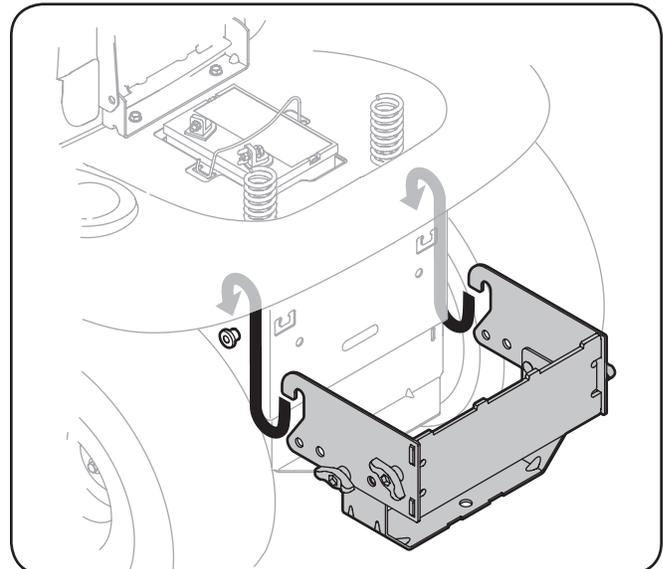

Figure 3-5
1. Place the hooked ends of the mounting assembly over the shoulder bolts, as in Figure 3-5, on the tractor and line up the hitch support bracket center hole with the hole on the tractor's hitch.